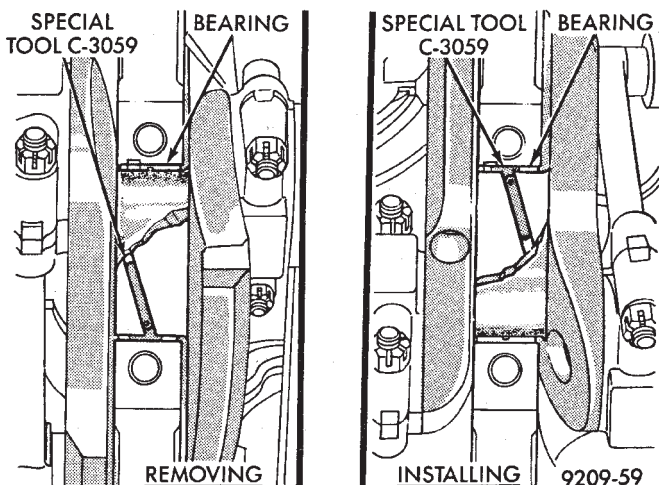

Fig. 3 Removing and Installing Upper Main Bearing With Special Tool C-3059
- (1) Remove oil pan and identify bearing caps before removal.
- (2) Remove bearing caps one at a time. Remove upper half of bearing by inserting Special Main Bearing Tool C-3059. (Fig. 3) into the oil hole of crankshaft.
- (3) Slowly rotate crankshaft clockwise, forcing out upper half of bearing shell.
- (1) Start bearing in place, and insert Main Bearing Tool C-3059 into oil hole of crankshaft (Fig. 3).
- (2) Slowly rotate crankshaft counter-clockwise sliding the bearing into position. Remove Special Main Bearing Tool C-3059.
- (3) Install each main cap and tighten bolts finger tight.
- (4) Tighten number 1, 3 and 4 main cap bolts to 41 N•m + 1/4 Turn (30 ft. lbs.+ 1/4 Turn).
- (5) Rotate the crankshaft until number 6 piston is at TDC.
(6) To ensure correct thrust bearing alignment the following procedure must be done: